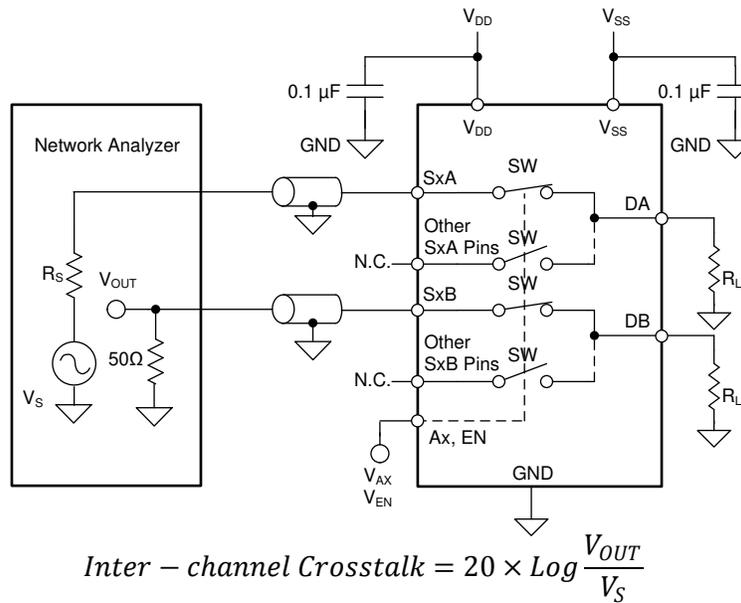

Figure 7-9. Inter-channel Crosstalk Measurement Setup
2. Inter-channel crosstalk ($X_{TALK(INTER)}$): the voltage at the source pin (S_x) of an on-switch input, when a $1-V_{RMS}$ signal is applied at the source pin of an on-switch input in a different channel, as shown in Figure 7-9. Inter-channel crosstalk applies only to the TMUX7309F device.